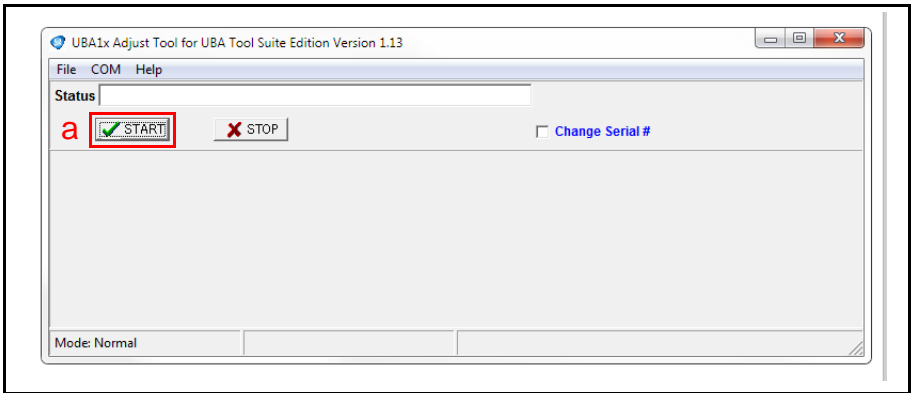

Figure 12 UBA1x Adjust for UBA Tool Suite Edition Version x.xx Screen
6. To begin Calibration, click the "START"  Screen Button (Figure 12 a), then follow the screen prompts.